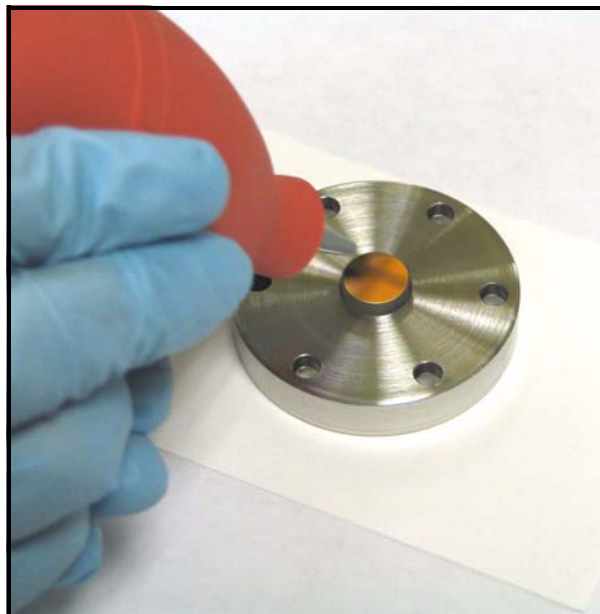

Figure 79: Drying the Mirror
- Use the air blower to blow dry air onto the surface of the mirror. Puff repeatedly until the mirror surface appears dry (see Figure 79).